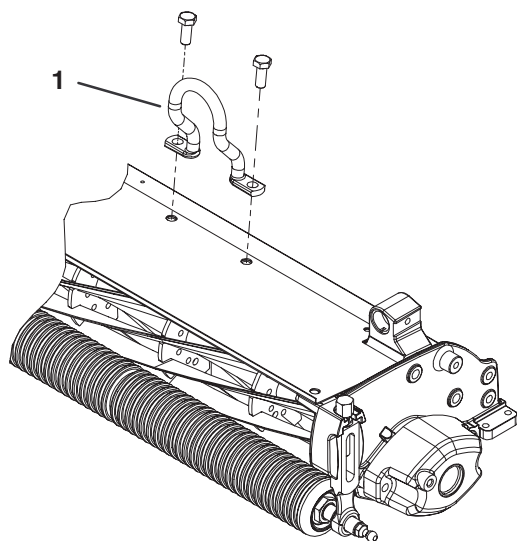

Figure 12
2. Install the offset lift hook (Fig. 12) to the top of the cutting unit with (2) M10-1.5 capscrews. Torque the capscrews to 25-30 ft-lbs. (34-40 N·m). The offset lift hook should be positioned with hook forward.